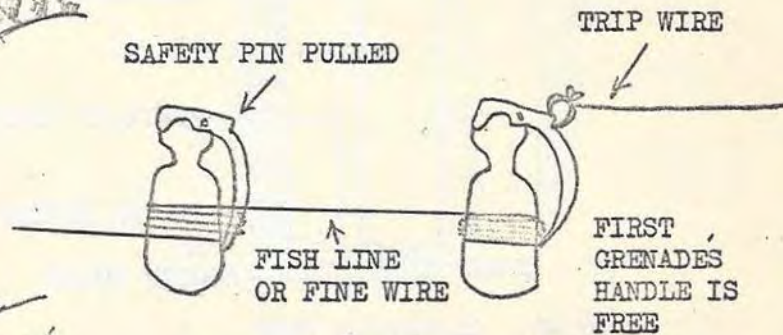

FIGURE 64. GRENADE DAISY CHAIN
e. Grenade Daisy Chain: The daisy chain of grenades is made by firsts attaching a grenade to a tree or bush and tying it in such a manner that the handle is free to activate if the safety pin (which is attached to a trip wire) is pulled. Successive grenade handles are held under tension by a line from the preceding grenade. All grenades but the first one have their safety pins pulled. When the trip wire to the first grenade is tripped, the safety pin is pulled and the safety handle flies off, allowing the grenade to detonate. As the grenade detonates, it releases the string to the next grenade allowing the handle to fly free, detonate and, in turn, release subsequent grenades in the line. Placed along a trail, this arrangement is very effective against closely spaced members of a patrol (Figure 64).